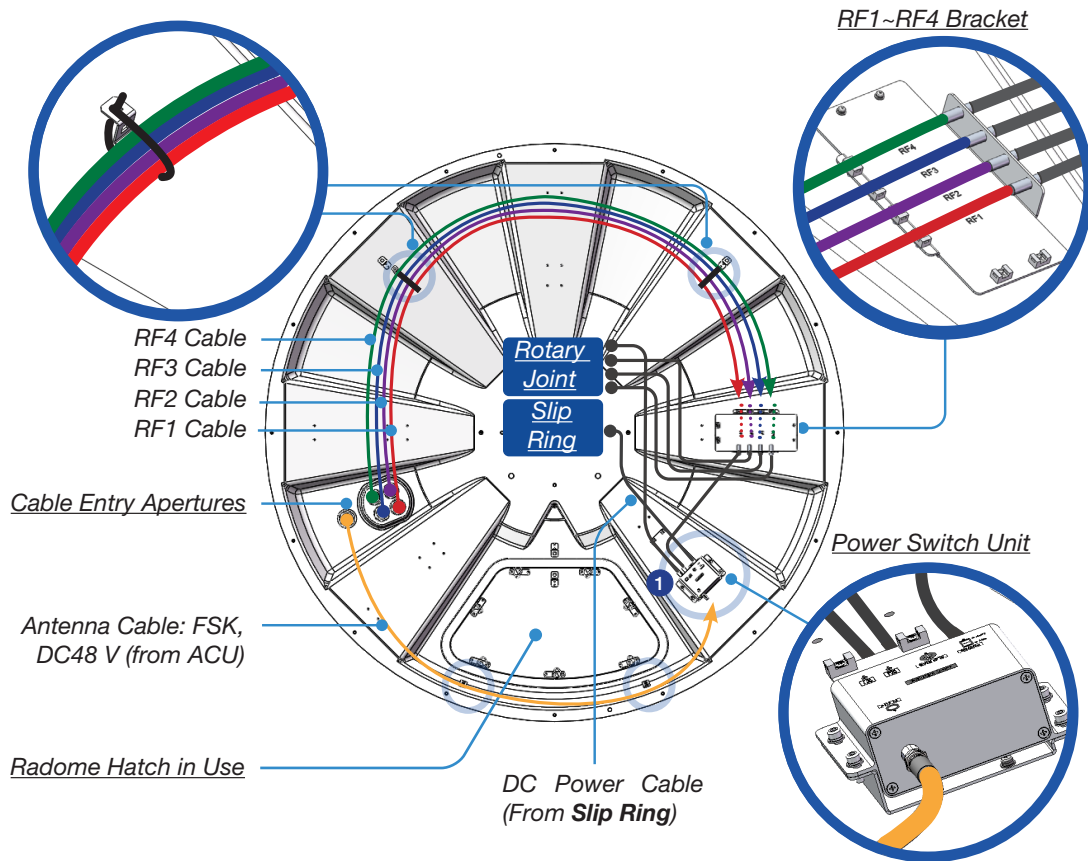
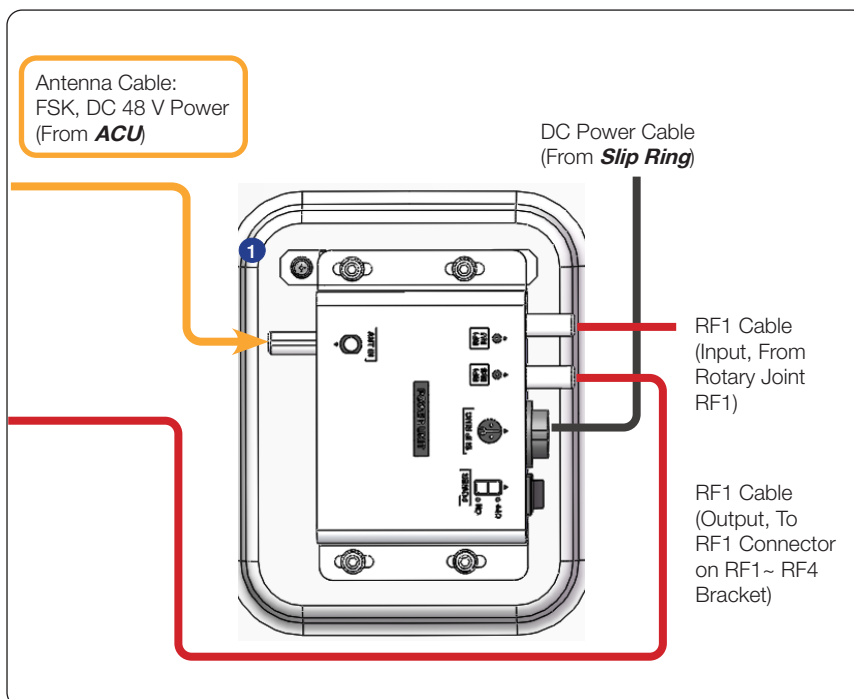

Figure 15: Cable Connection Inside Radome
Figure 16: Cable Connections on Power Switch Unit
4. Terminate the RF cables with F (M) connectors inside the radome. Intellian recommends using genuine cable connectors and tools. Refer to the cable termination instructions provided by the connector manufacturers.
5. Connect the antenna cable (from ACU) to the power switch unit inside the radome (see Figure 15 and Figure 16).
6. Connect the RF1, RF2, RF3 and RF4 cables to the F-connectors on the RF1~RF4 bracket (see Figure 15).
7. Ensure the cables are firmly fastened to the connectors and fix them on the cable mounts inside the radome using cable ties (see Figure 15).